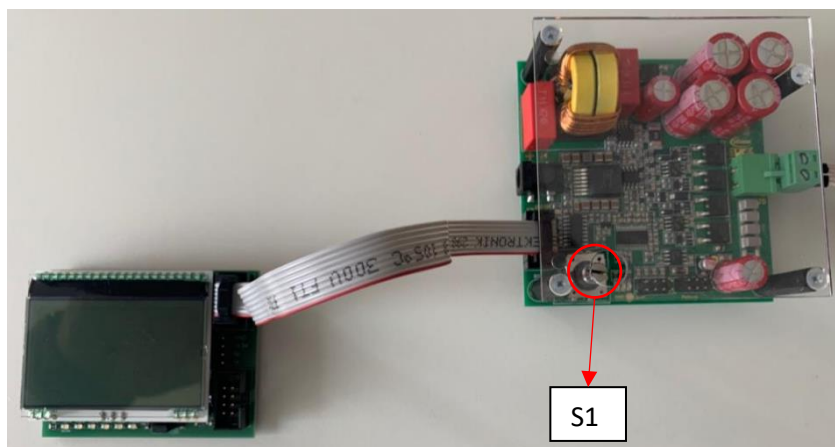

Figure 12: Connect the TX board to the LCD display
- Once the software is flashed, turn on the Tx by pressing the switch S1 as marked in Figure 12,